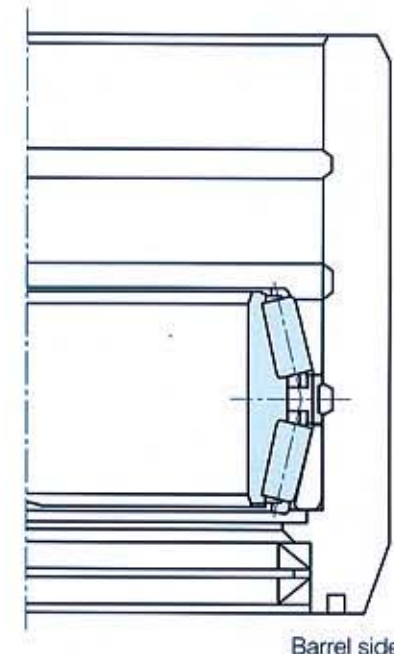

Fig. 3.2
- (3) Insert the cup spacer with matching symbol B.
- (4) Apply grease to the bore surface and end surface of the cone with matching symbols A-CA.
- (5) Apply grease to both of the cage and roller sets. Turn the cage and roller sets to spread the grease to the cone raceway and rib surfaces.
- (6) Lift to assemble the cone, with the matching symbol A side facing downward, by the lifting tool. (**Fig. 3.2**)
- (7) Apply grease over all the surfaces of the double-cup.
- (8) Lift the double-cup, with the matching symbol B side facing downward, with a lifting tool, then match the load position numbers, and assemble it with care.